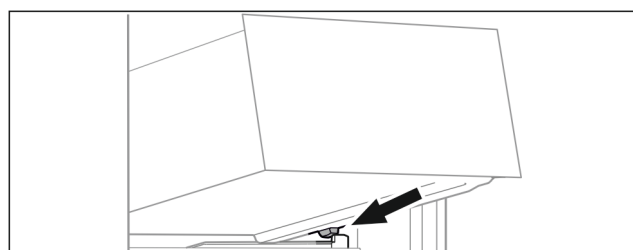

Fig. 60
- ▶ Place drawer at an angle behind the stoppers on the moulded rib. (see Fig. 60)